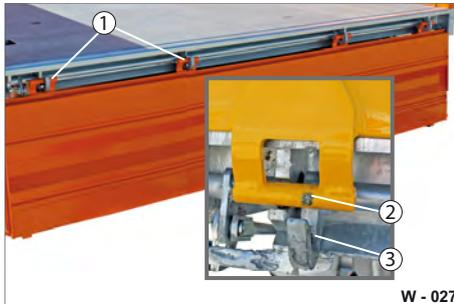

Fig. 27 Platform gate at rear
- ▶ Clean the lubrication/bearing points (Fig. 27/1) with a clean, dry cloth.
- ▶ Lubricate the lock lugs (Fig. 27/2) and lock hook (Fig. 27/3).